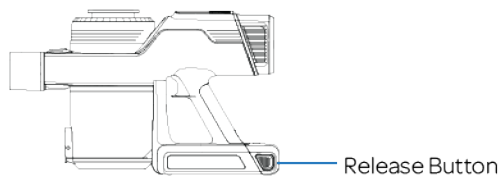
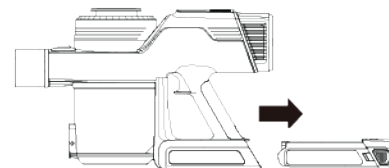

Figure 2
Figure 3
2. (Figure 2) Hold the Main Body still, while pulling the Battery away from the Main Body to release. (Figure 3)